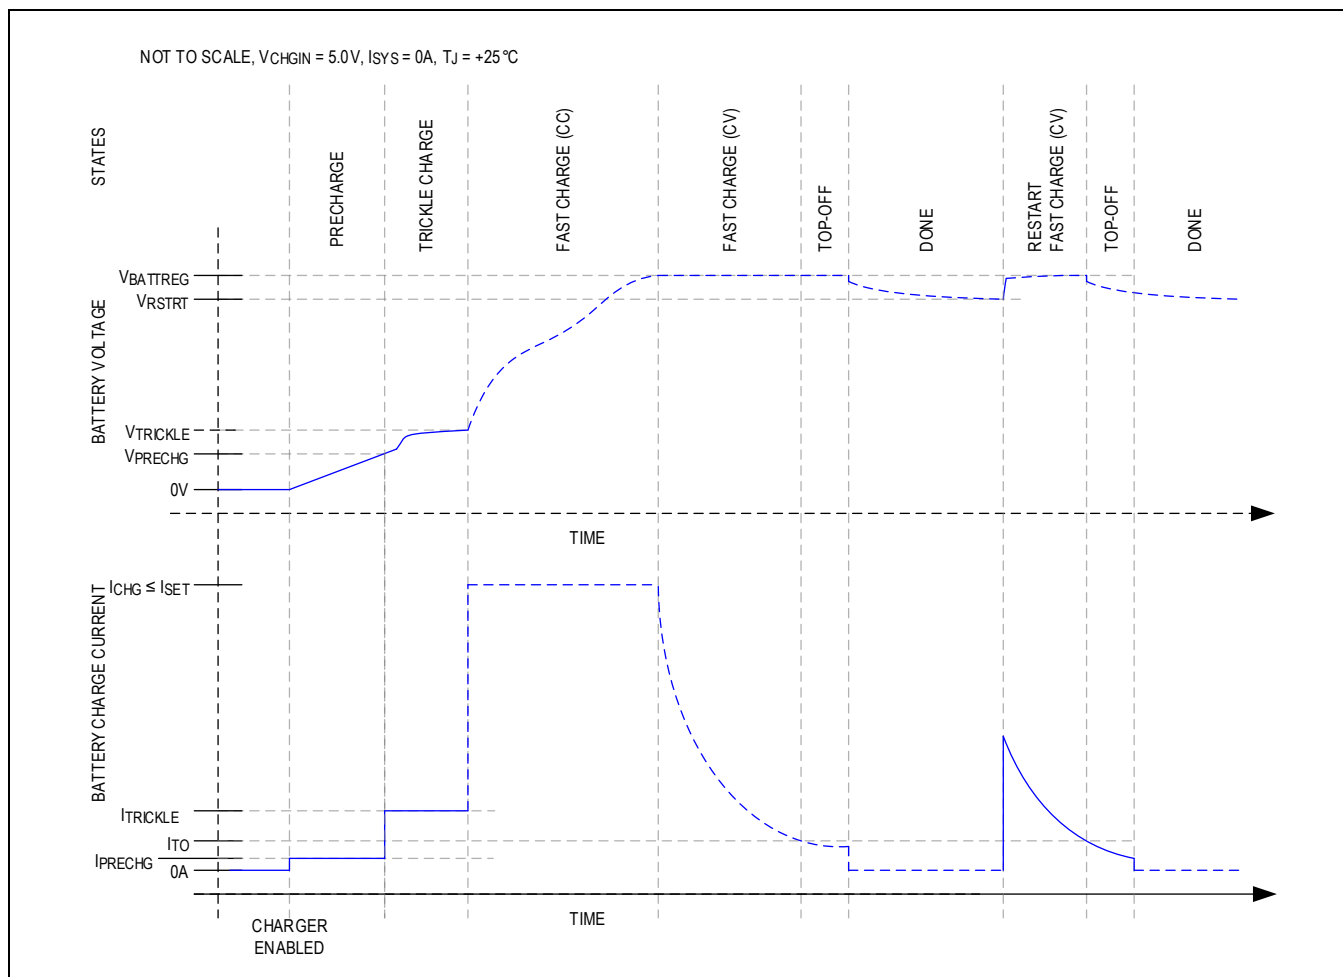
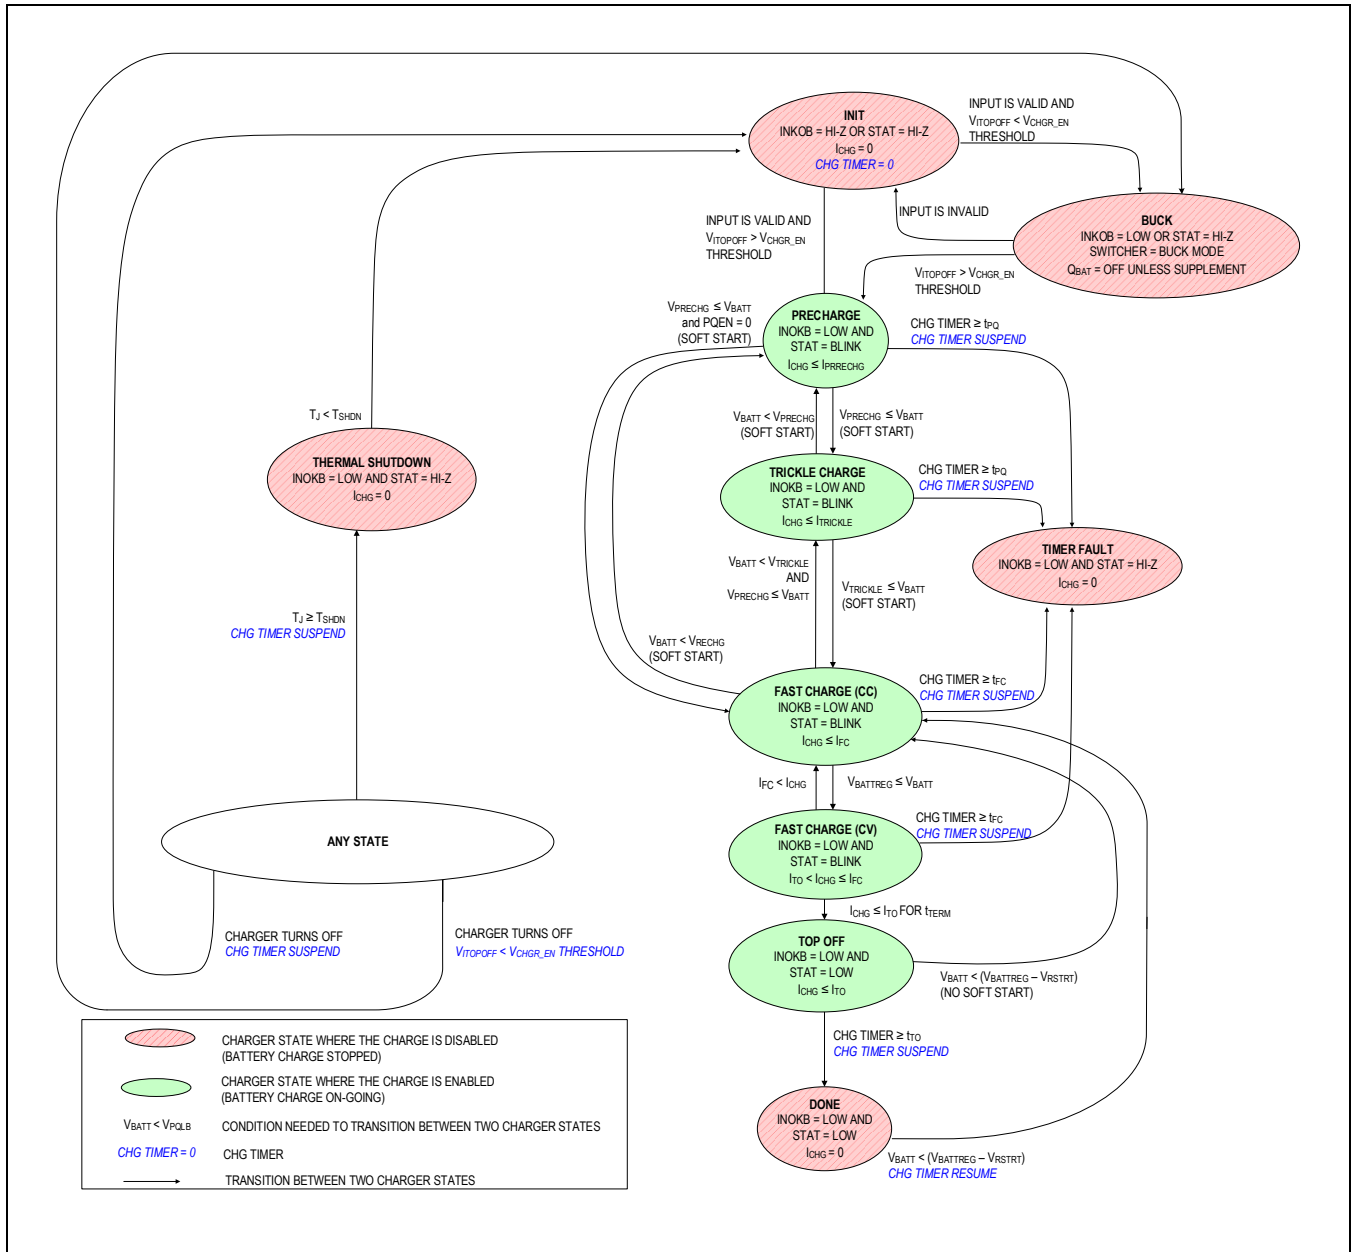

Figure 5. Li+/Li-Poly Charge Profile
Figure 6. Charger State Diagram
The MAX77751 utilizes several charging states to safely and quickly charge batteries, as shown in Figure 5 and Figure 6. Figure 5 shows an exaggerated view of a Li+/Li-Poly battery progressing through the following charge states when there is no system load and the die and battery are close to room temperature: precharge → trickle → fast-charge → top-off → done.
From any state shown in Figure 6 except thermal shutdown, the INIT state is entered whenever the charger inputs that CHGIN is invalid or the charger timer is suspended.
The chip has a state where battery charging is disabled while the charger input CHGIN is valid. The state is called buck state. Entering or leaving buck state is controlled by the voltage of the ITOPOFF pin. If the voltage of this pin is pulled down by an external device (i.e., MCU) under V_{CHGR_EN} , the chip goes to the buck state from any state if CHGIN is valid, as shown in Figure 6. In the buck state, charging is disabled, which means Q_{BAT} is off, unless it is in supplement mode. If the voltage of this pin is over V_{CHGR_EN} , the chip gets out of the buck state and resumes charging. Note that only when CHGIN is valid, charging can be enabled or disabled. Therefore, the external device (i.e., MCU) should check using the INOKB signal if CHGIN is valid before trying to enable or disable charging.
As shown in Figure 6, the precharge state occurs when the battery voltage is less than V_{PRECHG} . In the precharge state, charge current into the battery is I_{PRECHG} .
As shown in Figure 6, the trickle charge state occurs when $V_{BATT} > V_{PRECHG}$ and $V_{BATT} < V_{TRICKLE}$.
As shown in Figure 6, the fast-charge constant current (CC) state occurs when the battery voltage is greater than the trickle threshold and less than the battery regulation threshold ($V_{TRICKLE} < V_{BATT} < V_{BATTREG}$).
As shown in Figure 6, the fast-charge constant voltage (CV) state occurs when the battery voltage rises to $V_{BATTREG}$ from the fast-charge CC state.
In the fast-charge CV state, the battery charger maintains $V_{BATTREG}$ across the battery, and the charge current is less than or equal to I_{FC} . As shown in Figure 5, the charger current decreases exponentially in this state as the battery becomes fully charged.
As shown in Figure 6, the top-off state can only be entered from the fast-charge CV state when the charger current decreases below I_{TO} for t_{TERM} . In the top-off state, the battery charger tries to maintain $V_{BATTREG}$ across the battery, and typically, the charge current is less than or equal to I_{TO} .
As shown in Figure 6, the battery charger enters its done state after the charger has been in the top-off state for t_{TO} .
The battery charger provides a charge timer to ensure safe charging. As shown in Figure 6, the charge timer prevents the battery from charging indefinitely. The time that the charger is allowed to remain in each of its prequalification states is t_{PQ} . The time that the charger is allowed to remain in the fast-charge CC and fast-charge CV states is t_{FC} . Finally, the time that the charger is in the top-off state is t_{TO} . Upon entering the timer fault state, STAT becomes Hi-Z.
In the timer fault state, the charger is off. The charger input can be removed and re-inserted to exit the timer fault state (see the “any state” bubble in the lower left of Figure 6).
As shown in Figure 6, the thermal shutdown state occurs when the battery charger is in any state and the junction temperature (T_J) exceeds the device’s thermal shutdown threshold (TSHDN). When T_J is close to REG, the charger folds back the input current limit to 0A so that the charger and inputs are effectively off (see the Thermal Foldback section).